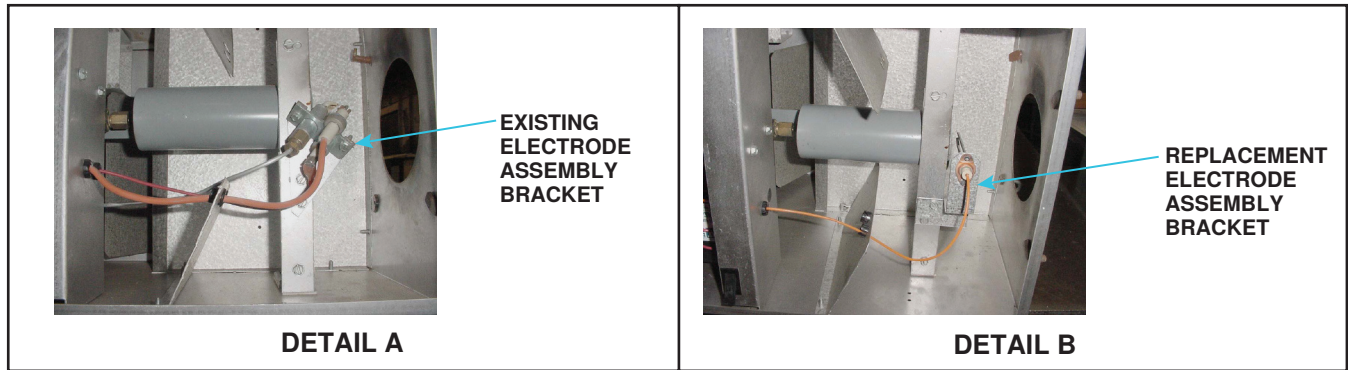

Figure 55. Electrode Assembly Replacement
- b. Remove and save two screws that secure existing electrode assembly bracket to burner support and remove existing electrode with bracket (see Figure 55, DETAIL A).
- e. Position replacement electrode assembly mounting bracket on burner support as shown in Figure 55, DETAIL B and secure bracket using existing screws.